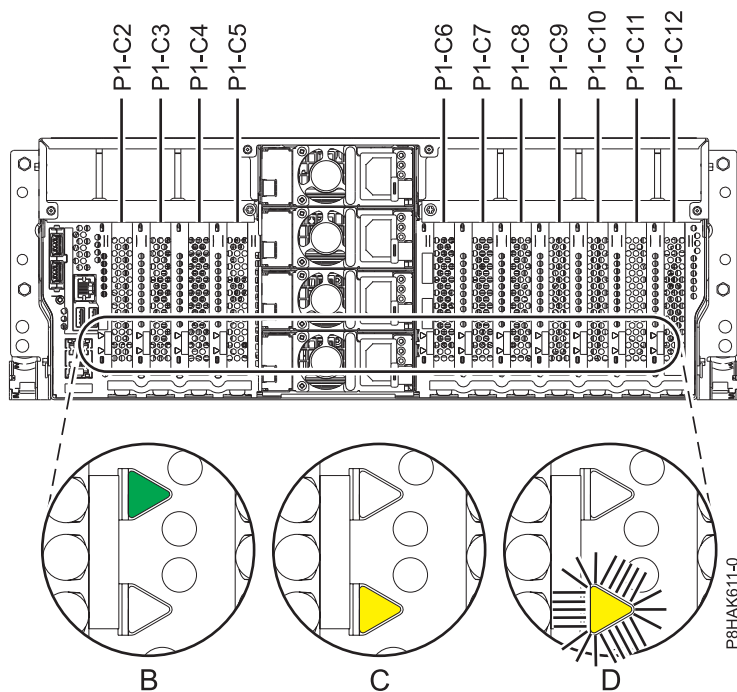
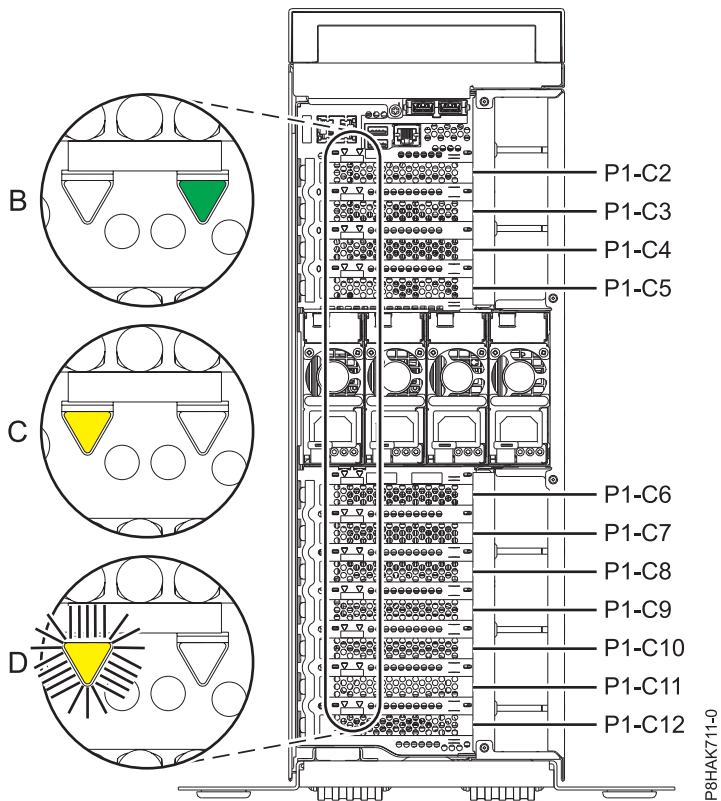

Figure 68. PCIe adapter slot locations and locations of the LEDs in a rack-mounted system
Figure 69. PCIe adapter slot locations and locations of the LEDs in a stand-alone 8286-41A system
If you are servicing a failed PCIe adapter, look for the flashing amber LED for the failed PCIe adapter that you set to flash in the step to identify the failed part. See Figure 68 and Figure 69 on page 74 that show the state of the LEDs. Note that the amber LED for the failed PCIe adapter is **Flashing**, as shown in (D) in Figure 68 and Figure 69 on page 74.
**Attention:** If the PCIe adapter is operating correctly then the Activity LED is **ON** (green) and the Error amber LED is **OFF**, as shown in (B) in Figure 68 and Figure 69 on page 74. Do not attempt to remove the working PCIe adapter.